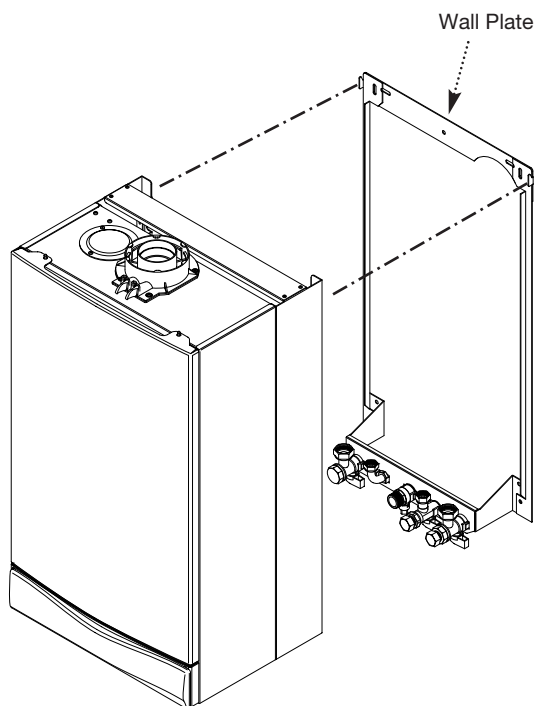

Fig. 18
2. Lift the boiler using the lower edges. Engage the slots at the top rear of the boiler on the wall plate (Fig. 18).